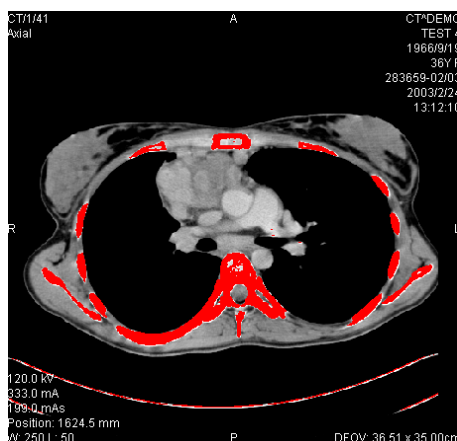

Figure 268 – Segmented image with threshold selection, contouring bones
4. Select the **Lower** and **Upper** grayscale values for the search process. All grayscale values within the selected threshold value range will be considered as matching. This can be seen in the current view – the matching regions are displayed in red while the remainder appears in black (see Figure 268).